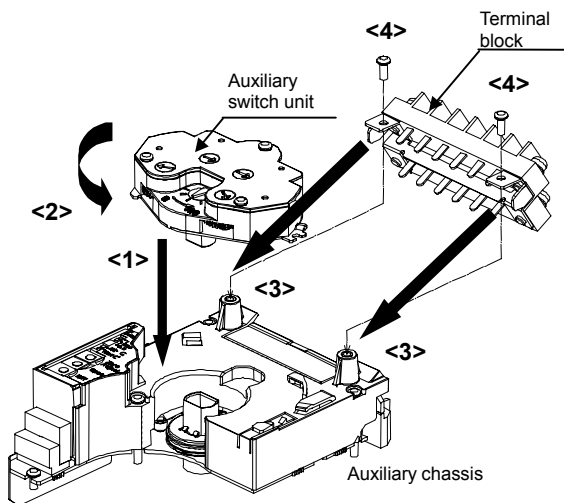

Figure 8. Assembling the auxiliary switch unit
- Insert the shaft of the auxiliary switch unit into the shaft of the control motor. (Align the tip of the arrow to the graduation side.) <Step 1 in Fig. 8>
- Turn the auxiliary switch unit counterclockwise until it clicks. <Step 2 in Fig. 8>
- Align the holes of the fixtures of the terminal block with the screw holes on the auxiliary chassis. <Step 3 in Fig. 8>
- Fix the terminal block with the two screws. <Step 4 in Fig. 8>